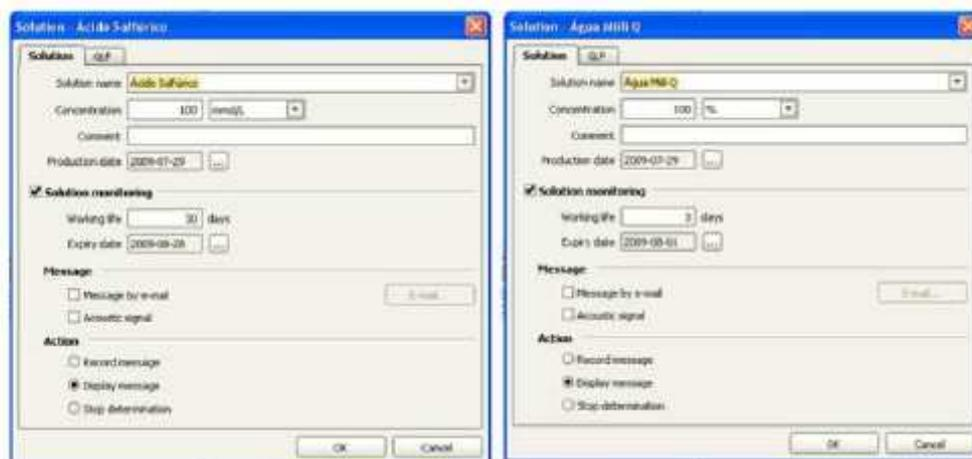

Figura 9.5 – Janela do software Magic Net IC, solution.
- Preencher os campos conforme a Figura 9.5: